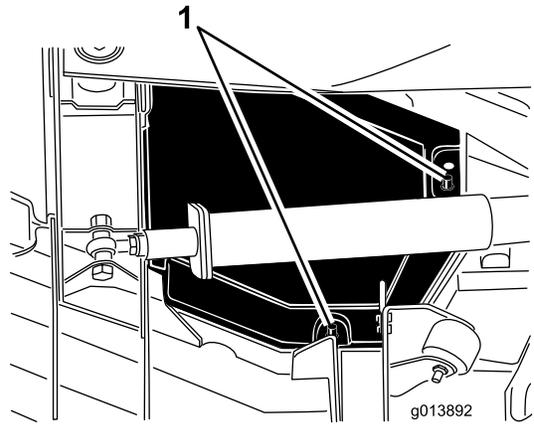

Figure 83
4. Lift the rear and inside cover edges off the mounting posts (Figure 83).